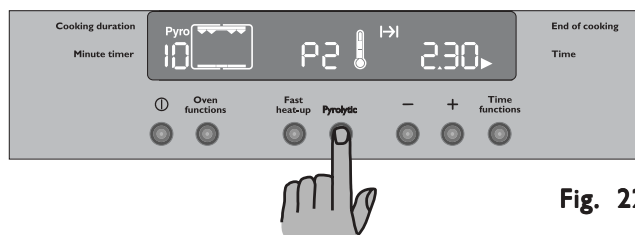

Fig. 22
4. To confirm which pyrolytic function you desire, press the Pyrolytic button. The “Pyro” writing will stop flashing and the symbol  will disappear; the acoustic signal will stop, the oven lamp will switch off and the pyrolytic cleaning cycle starts (Fig. 22).